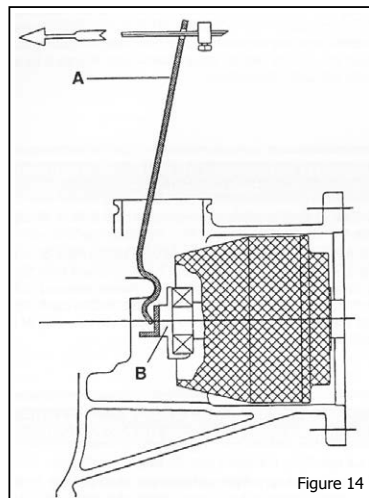

Figure 14
2. Mount the engine with the clutch to the gearbox and secure it, taking care that the two teeth of the thrust bearing are positioned at the bottom (figure 14, B) as indicated.